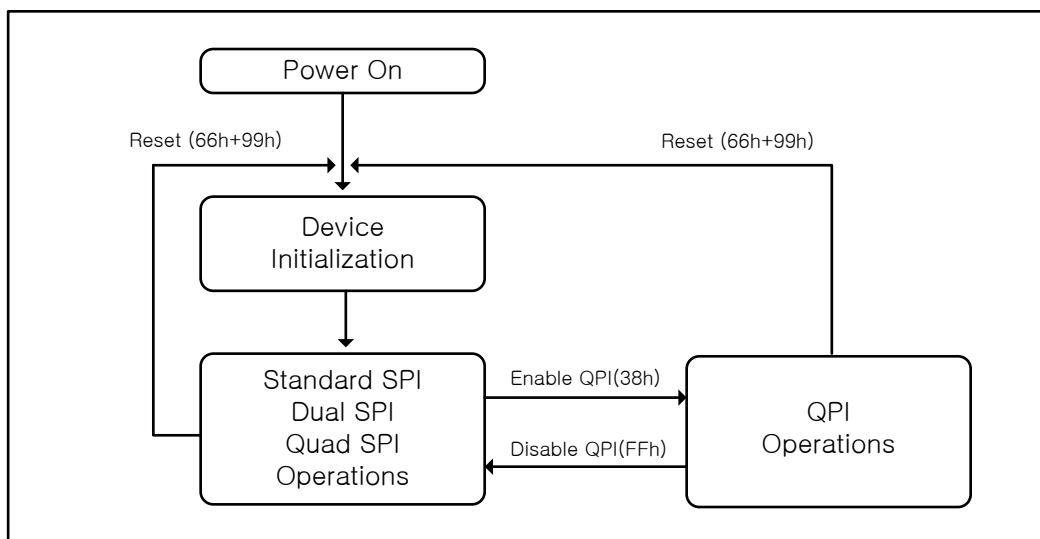

Figure 3. Operation Diagram of AS25F1128MQ
The AS25F1128MQ supports Quad Peripheral Interface (QPI) operation when the device is switched from Standard/ Dual/ Quad SPI mode to QPI mode using the “Enable QPI (38h)” instruction. To enable QPI mode, the non-volatile Quad Enable bit (QE) in Status Register-2 is required to be set. When using QPI instructions, the DI and DO pins become bidirectional IO0 and IO1, and the /WP and /HOLD pins become IO2 and IO3 respectively. See Figure 3 for the device operation modes.